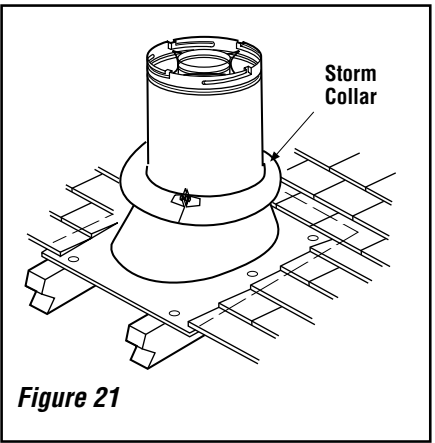

Figure 21
J. Install the storm collar - Install the storm collar, supplied with the flashing, over the vent/flashing joint. See **Figure 21**. Loosen the storm collar screw. Slide collar down until it meets the top of the flashing. Tighten the adjusting screw. Apply non-combustible caulking or mastic around the circumference of the joint to provide a water tight seal.